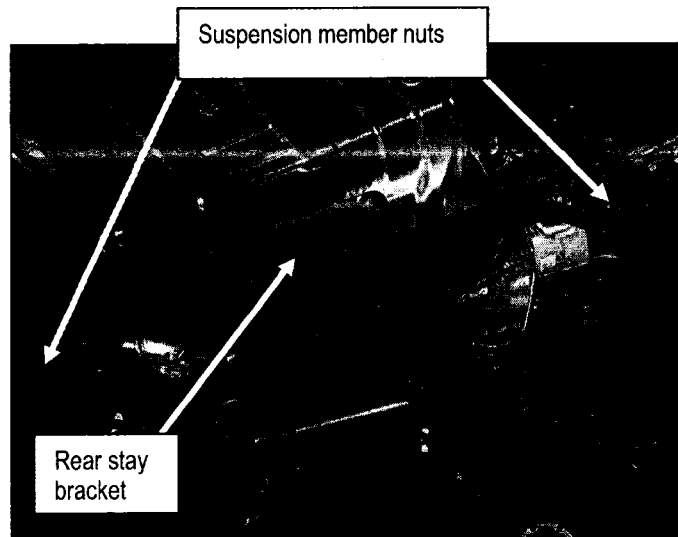

Figure 68
31. Remove the rear stay bracket and suspension member rear nuts (see Figure 68).